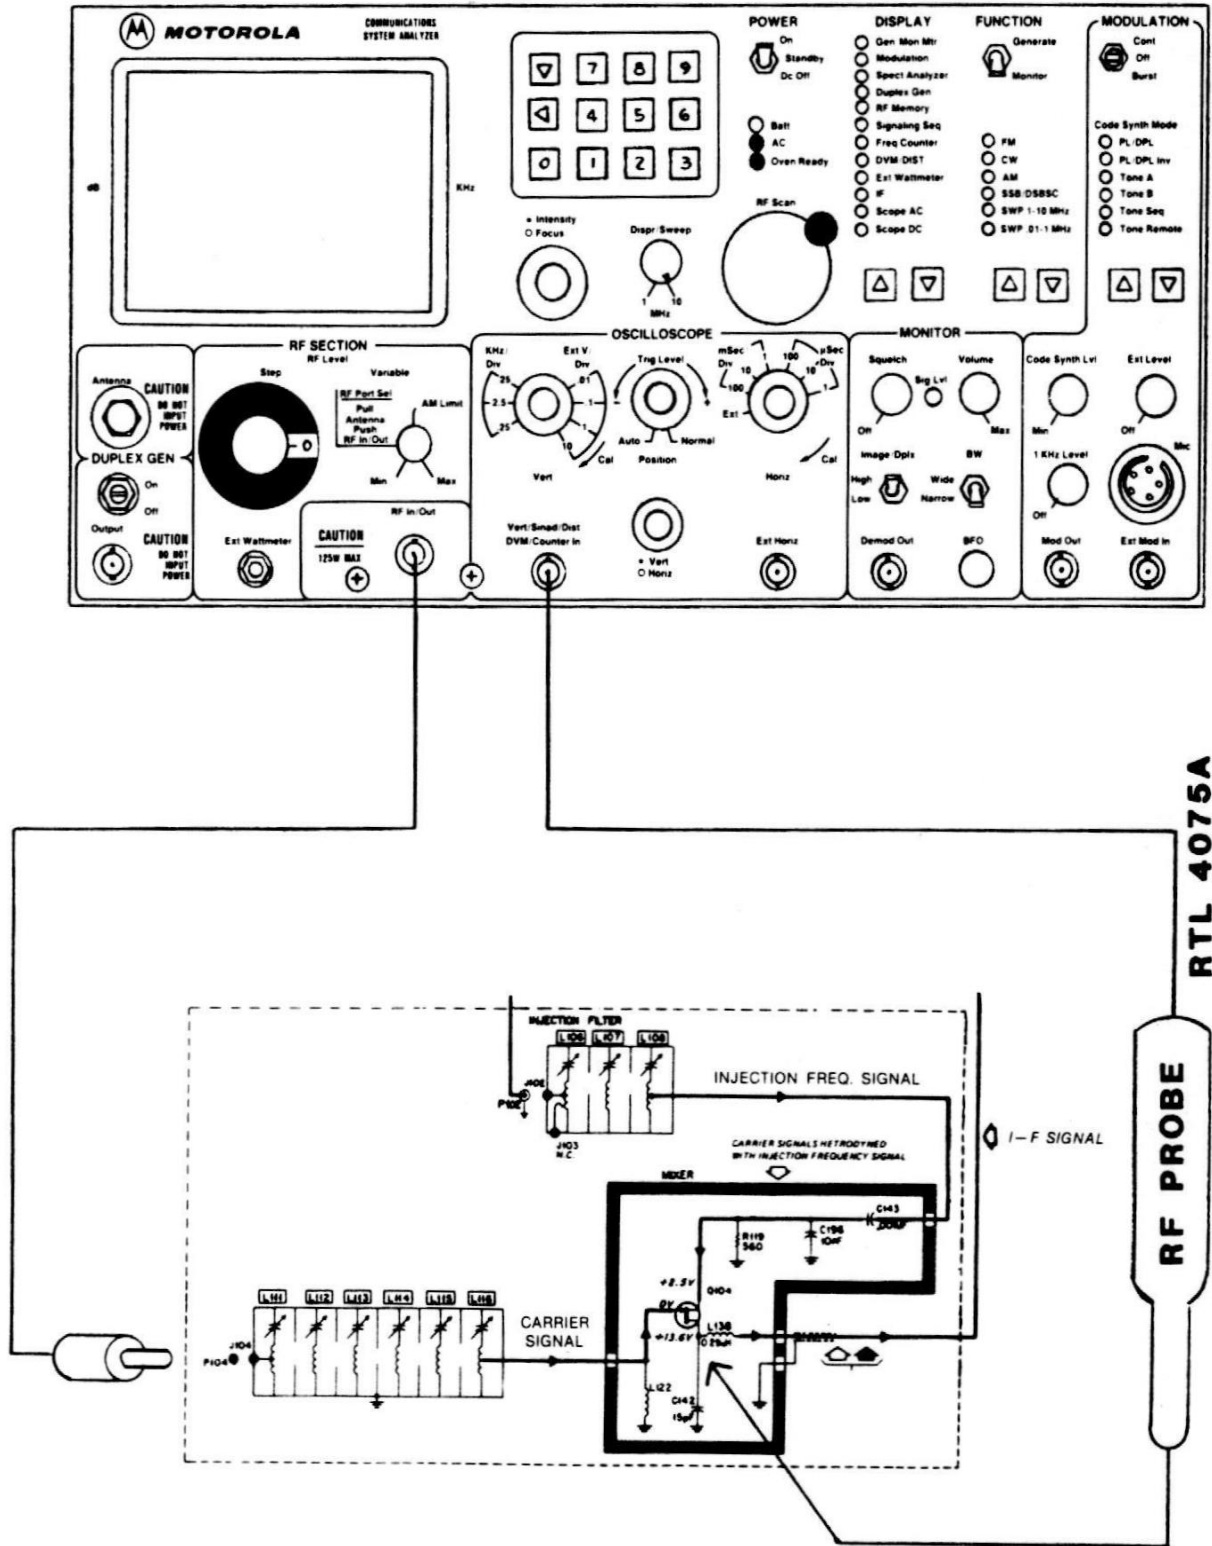

FIGURE 4-5. PROBE SETUP
1. Connect the Analyzer's RF In/Out to the antenna connector of the receiver under test. Connect the Analyzer's Vert/Sinad/Dist to the RF probe. Connect the probe to the first available low impedance point following the preselector, as shown in figure 4-5.